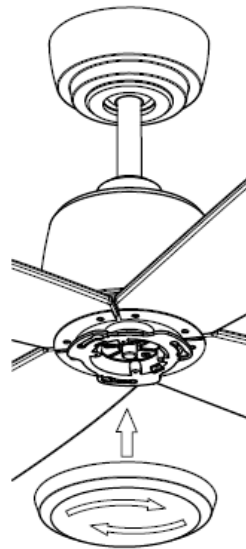

Fig. 9
- Finally install the bottom cover to the shaft of the motor by rotating it clockwise. Fig.9.